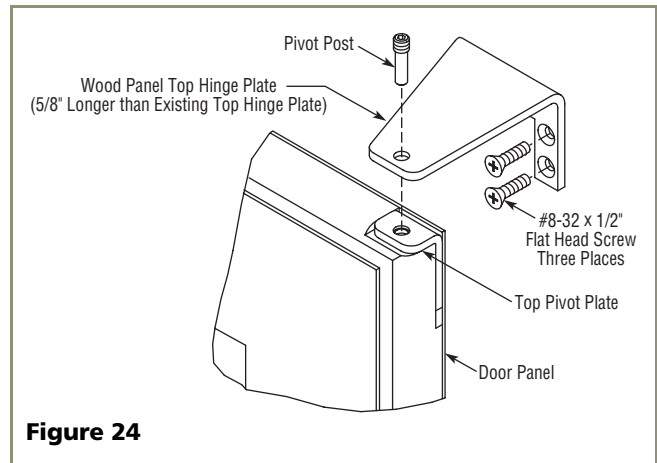

Figure 24
2. Install the new Replacement Top Hinge onto the unit (see **Figure 24**).